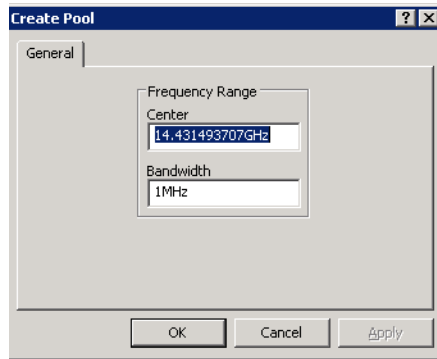

Figure 3-35 Create Pool dialog
2. Right-click in the Transponder area and select **Create Pool** from the menu to open the Create Pool dialog shown in figure 3-35, below.